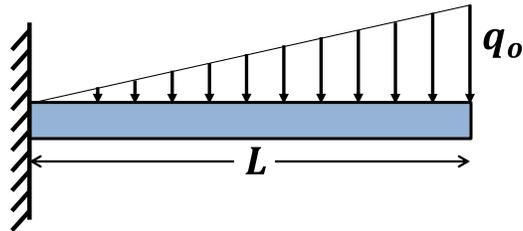

Fig. PS5.4
4. Suppose a cantilever beam of length L is subjected to a linearly distributed load of intensity as shown in Fig. PS5.4.